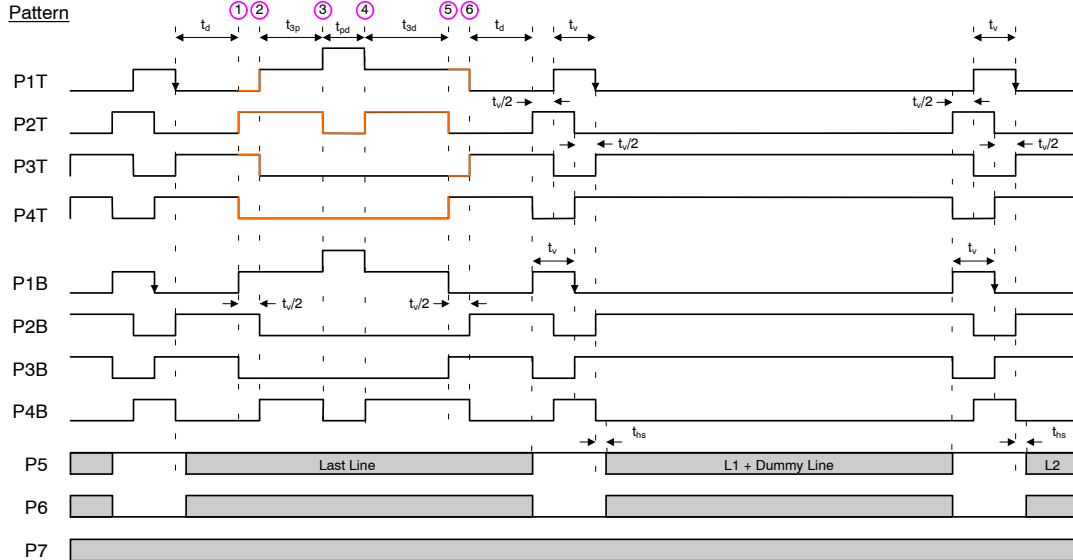

Figure 18. Photodiode Transfer Timing
1. Refer to timing diagrams as shown in Figures 18, 19, 20, 21 and 22.
The timing sequence for the clocked device pins may be represented as one of seven patterns (P1–P7) as shown in the table below. The patterns are defined in Figure 18 and